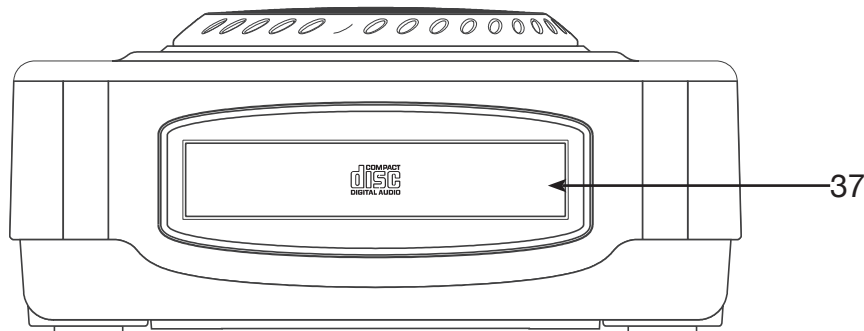

Figure 5
C. FRONT PANEL (FIGURE 5)
37. TRANSPORT TRAY - This tray is used to load and unload a compact disc. The tray is opened and closed by pressing the OPEN/CLOSE BUTTON (15). Never attempt to force the transport tray open or closed when the power is turned off.